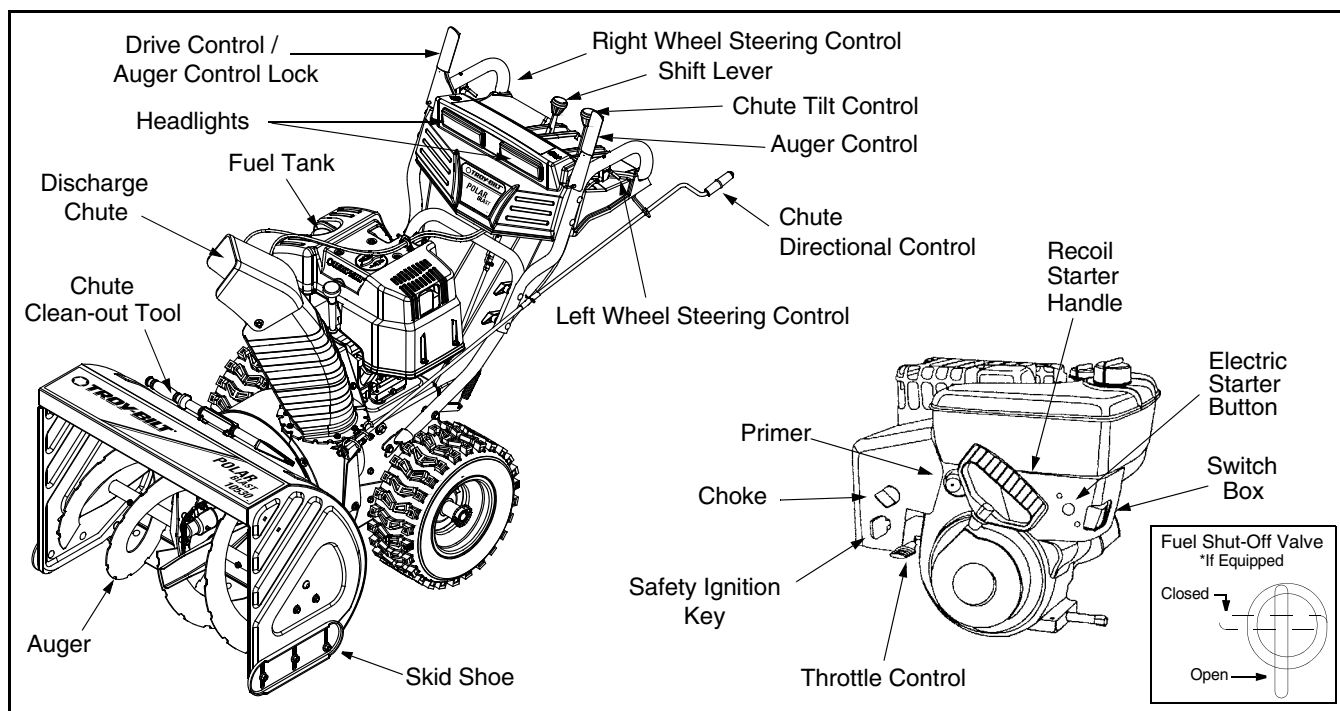

Figure 8
The throttle control is located on the engine. It regulates the speed of the engine and also stops the engine. See Figure 8.
On models so equipped, the fuel shut-off valve, located under fuel tank, controls fuel-flow from the fuel tank to the engine. See Figure 8.
The shift lever is located in the center of the handle panel and is used to determine ground speed and direction of travel. It can be moved into any of eight positions. See Figure 8.
The drive control is located on the right handle. Squeeze the drive control to engage the wheel drive. Release to stop. See Figure 8.
The distance snow is thrown can be changed by adjusting the angle of the upper chute. Move the chute tilt control forward to decrease the distance, and backwards to increase distance. See Figure 8.
The clean-out tool (see Figure 8) is designed to clear a clogged chute. Refer to page 11 for detailed instructions on how to properly use the clean-out tool.
- Move throttle control up to FAST position. Insert ignition key into slot and snap in place. See Figure 8. **Do not turn key.**
The clean-out tool is conveniently fastened to the rear of the auger housing with a mounting clip (Refer to Figure 8). If the chute assembly becomes clogged during operation, proceed as follows to safely clean the chute and chute opening: